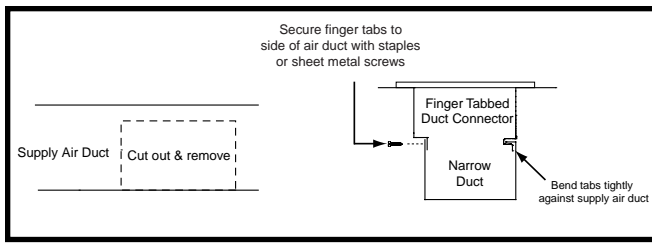

Figure 17. Narrow Ducts - Option 2
3. Bend the tabs on the bottom of the duct connector upwards and as tight as possible against the supply air duct. See Figure 17 (page 18).